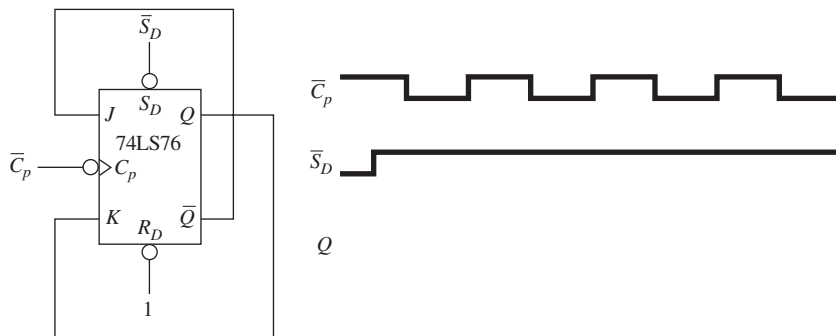

Figure P10–31
- C** 10–32. Sketch the output waveform at Q for Figure P10–32.